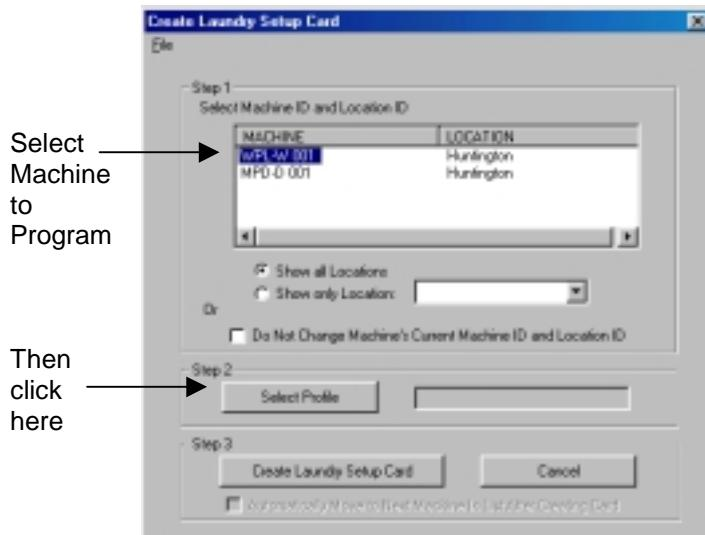
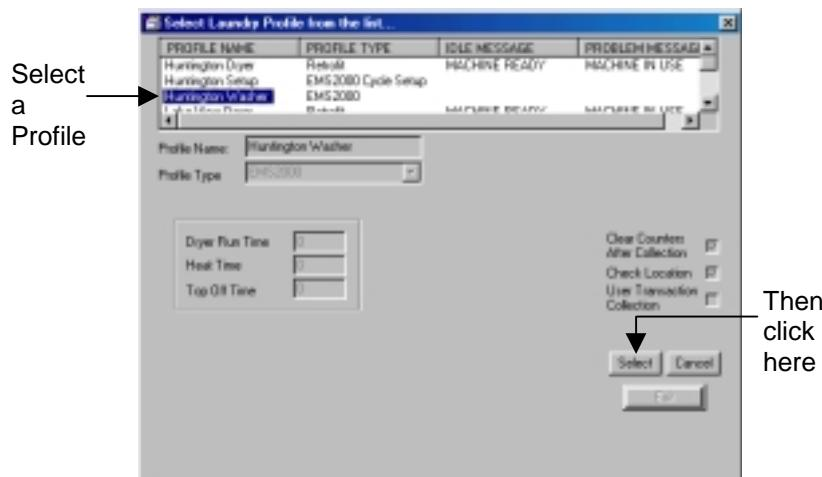

Figure 3.22 Selecting a Laundry Machine to Program
Figure 3.23 Selecting a Profile
3. In the Create Laundry Setup Card window click on the machine to set up (Figure 3.22).
4. Click the Select Profile button (Figure 3.22). Select the profile for the Laundry Machine that is being programmed, and click the Select button (Figure 3.23).